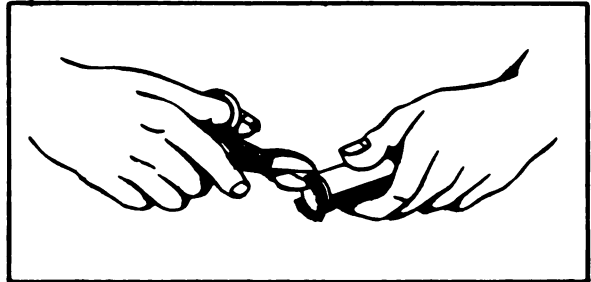

Figure 11-8. Trimming Frayed Ends of Flexible Conduit
- f. Trim frayed ends of braid with end nippers or shears. See figure 11-8.
- i. Trim frayed ends of braid with end nippers or shears as shown in figure 11-8.